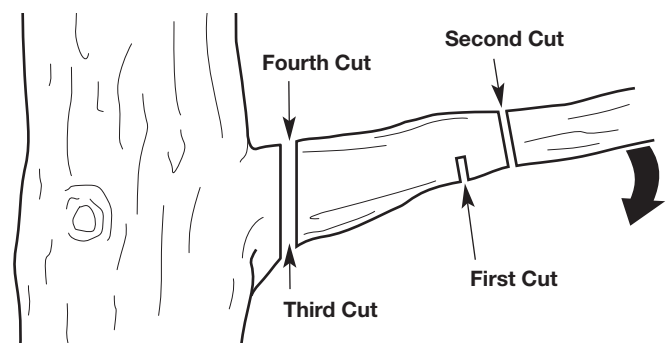

Fig. 14
1. Make the first cut approximately 6 inches (15 cm) from the tree trunk. Cut upward, from the underside of the limb. Use the top of the guide bar to make this cut. Cut a third of the way through the diameter of the limb (Fig. 14).
2. Make the second cut 2 - 4 inches (5 - 10 cm) farther out on the limb. Cut downward, from the top of the limb. Use the bottom of the guide bar to make this cut. Cut completely through the limb (Fig. 14).
3. Make the third cut as close to the tree trunk as possible. Cut upward, from the underside of the limb stub. Use the top of the guide bar to make this cut. Cut a third of the way through the diameter of the limb (Fig. 14).
4. Make the fourth cut directly above the third cut. Cut downward, from the top of the limb stub. Use the bottom of the guide bar to make this cut. Cut completely through the limb stub to meet the third cut (Fig. 14). This will remove the limb stub.